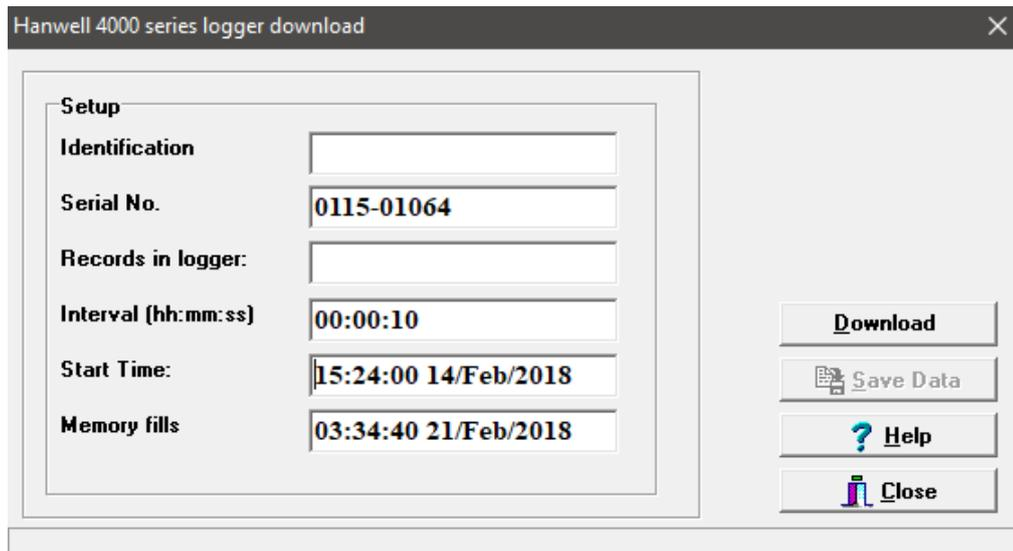

Figure 14
- The **Hanwell 4000 series logger download** window is displayed. See Figure 14 below: